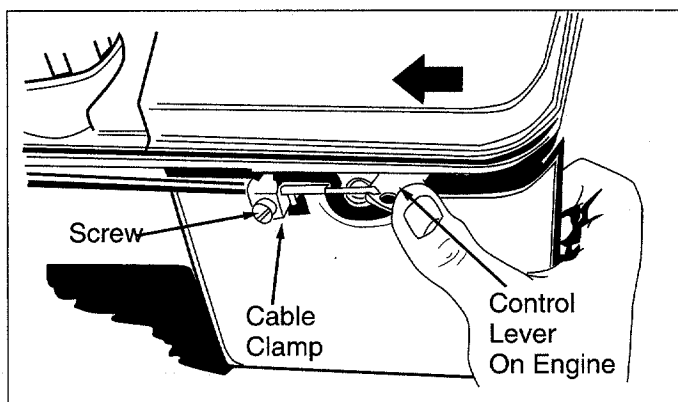

Figure 11
- Remove the screw shown in Figure 11. Remove the cable clamp from the cable.